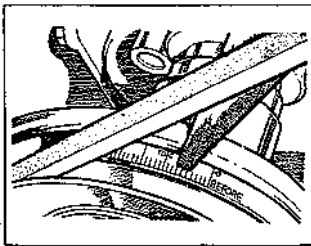

Fig. 4.5 Check that the scale and pointer are correctly aligned (Sec 8)
- 5 Turn the engine on the starting handle, observing the timing scale on the crankshaft pulley (Fig. 4.5). When the correct number of degrees before or after TDC is aligned with the pointer, the test lamp should just come